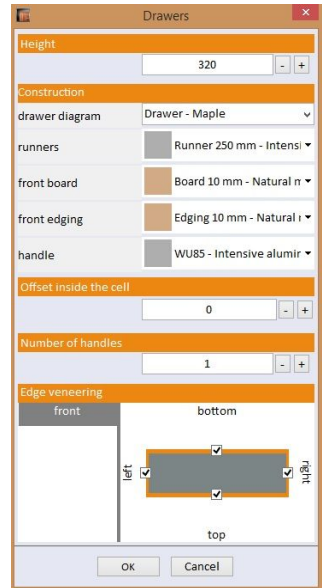

Fig. 128 - Editing a drawer
Drawer edition - (Fig. 128) enables you to:
- indication of the edge of the various components of the drawer (front, rear, left and right panels and bottom) to be veneered (to select them, in the first place select the item in the list on the left, for example, the bottom - as shown in the drawing to the right – Fig. 128).